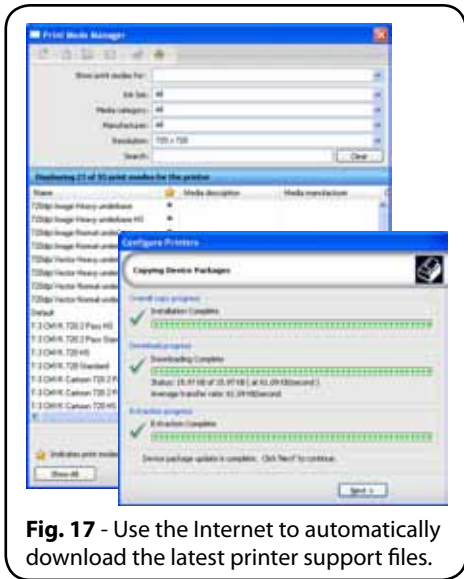

Fig. 17 - Use the Internet to automatically download the latest printer support files.
- **Online Printer Support File Updates** – Digital Factory already comes equipped with a broad selection of media profiles, which are organized according to printer model, media, inks, print speed, and print quality. The latest support files can be quickly obtained through your Internet connection (Fig. 17).